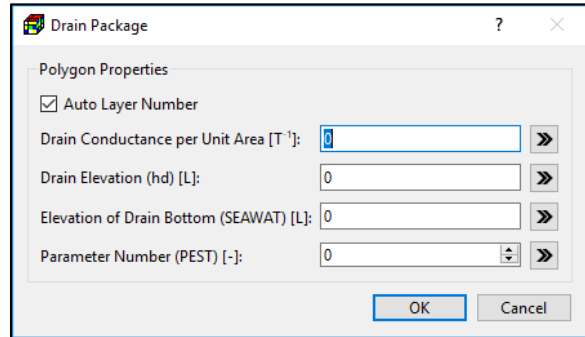

Figure 46. The Drain Package dialog box for specifying polygon properties
3. Polygon input method: Figure 46 shows the dialog box that is used to specify polygon properties. The polygon data may be assigned to model cells following the rules described in Section 3.4.2.3 and the rules below.